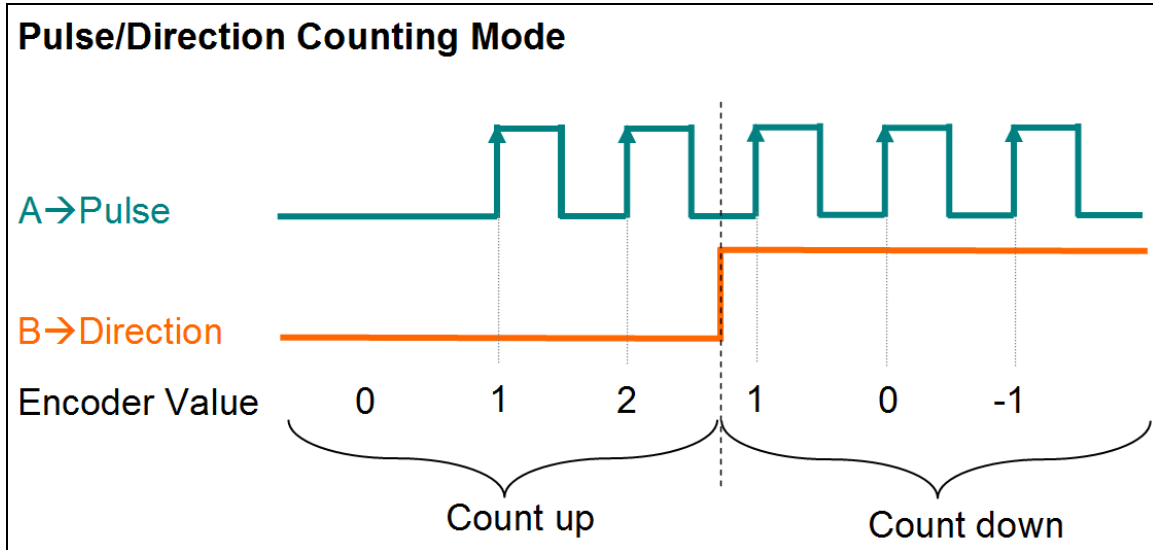

Figure 27: Pulse/Direction counting mode
In the **pulse/direction counting mode** (Figure 27) one input signal line is being used to indicate the position and a second one indicates the direction of motion, either forward or reverse. The "A" signal serves as the counter input and the "B" signal serves as the direction input (B = high: enables up count; B = low: enables down count). The EC4-ENC2IT counts the rising or falling edges of the "A" signal pulses and the "B" signal
- By changing the signal "B" polarity which indicates the direction for the pulse/direction counting mode (Figure 27) the counting direction will change.